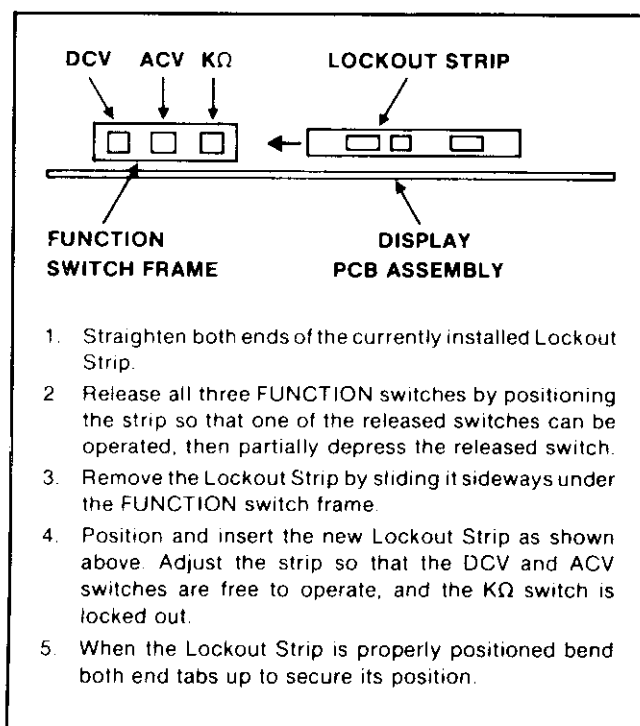

Figure 608-1. Lockout Strip Installation Instructions
2. Determine the measurement functions that will be available when the AC Converter is installed, i.e., DCV and ACV or DCV, ACV, and $k\Omega$. If $k\Omega$ is not available, prepare and install the Lockout Assembly as shown in Figure 608-1. If the Ohms Converter (Option -007) is installed, the Lockout Assembly is not required. In this case, complete only steps 1, 2, and 3 of Figure 608-1.